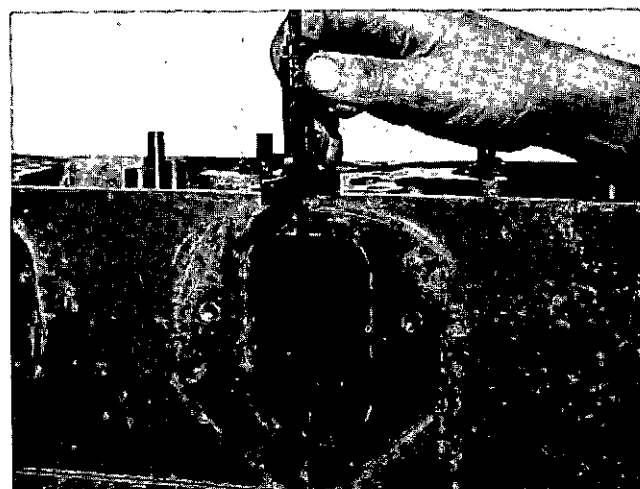

Fig. 2-1-13, V40222. Check cylinder head height
a. Check head height; see Table 2-1-2 for head dimensions. Use micrometer or vernier calipers for accurate measurement. Fig. 2-1-13.